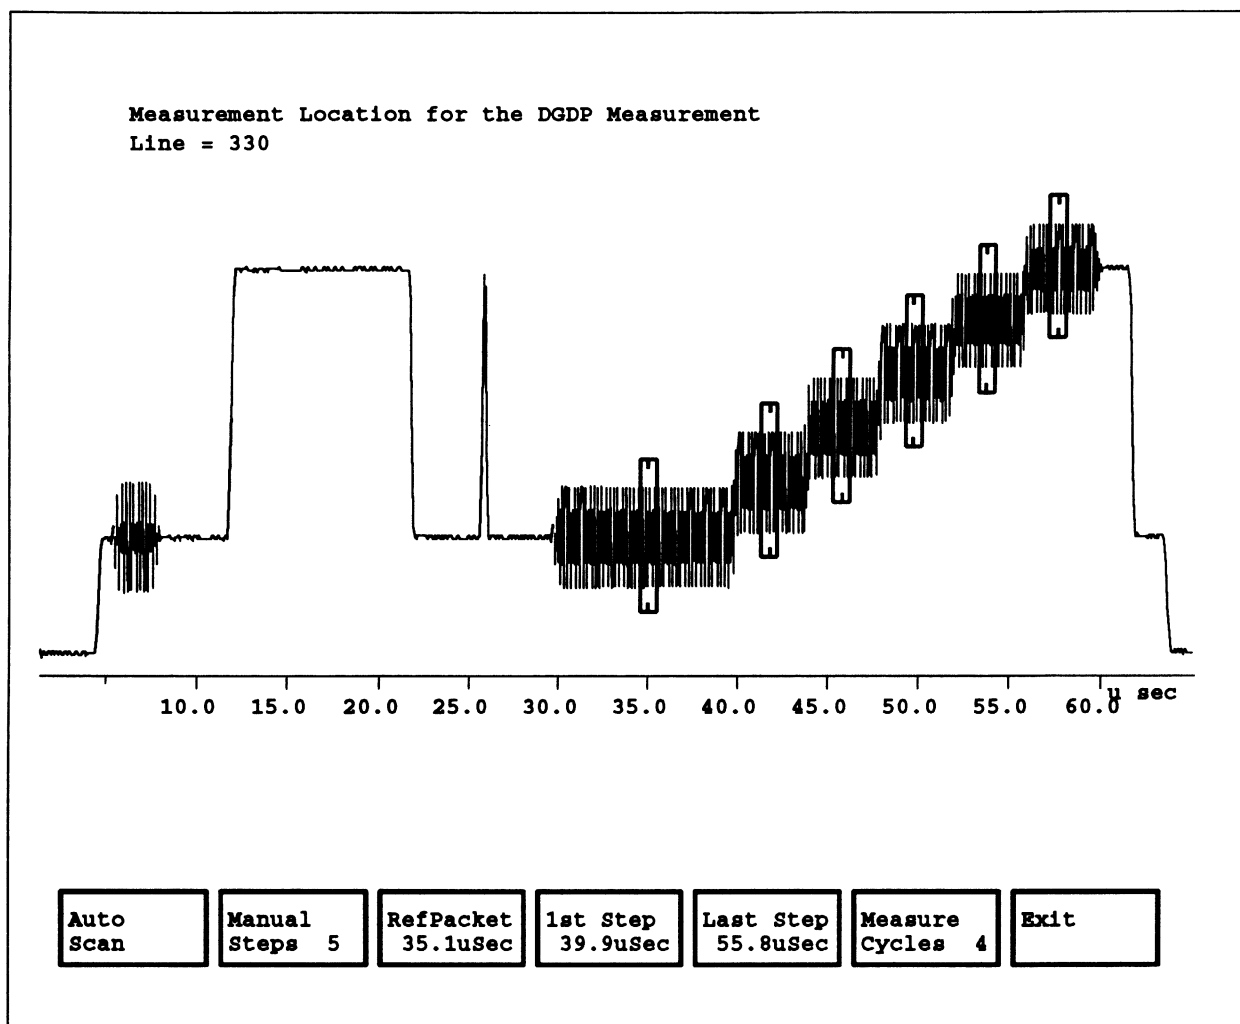

Figure 2-21. DGDP special position display.
**Special Position** displays the Special Position submenu that sets the locations on the waveform where the measurement is made. Figure 2-21 shows the DGDP special position display.